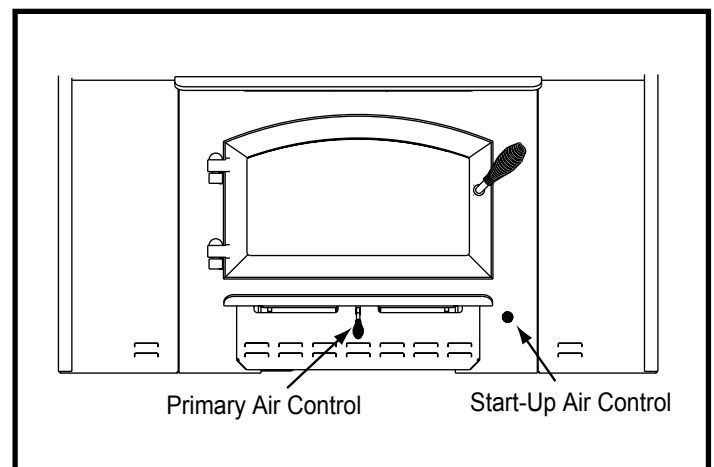

Figure 18.1
- Open Start-Up Air Control (right control) and Primary Air Control (center control under ashlip) fully. **Figure 18.1 on page 18.**
The primary air enters at the upper front of the firebox near the top of the glass door. This preheated air supplies the necessary fresh oxygen to mix with the unburned gases, helping to create secondary, tertiary and quaternary combustion. This air is regulated by the Primary Air Control. For more primary air (more heat), push rod in. For less primary air (less heat), pull rod out. **Figure 18.1.**